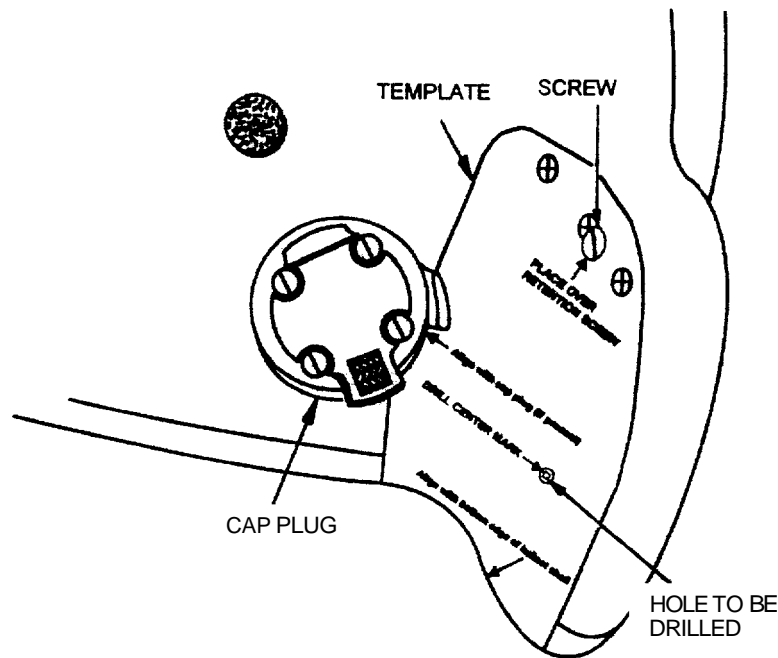

Figure 3. Template Placed on Helmet.
- (i) Depending upon the helmet size, position one of the four large holes along the top of the template over the right rear retention screw (located next to the eardome) as in Figure 3.